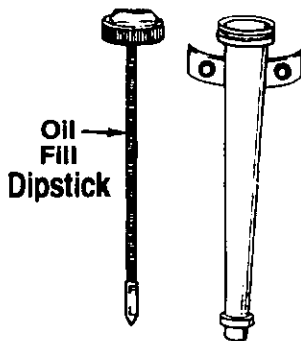

FIGURE 10.
- Fill engine with oil as follows. Remove oil fill dipstick. See figure 10. With log splitter level, use a funnel to fill engine with oil to FULL mark on dipstick. Capacity is approximately 1-1/4 pints. Be careful not to overfill. Check oil level. Refill to FULL mark on dipstick if necessary. Replace dipstick and tighten.